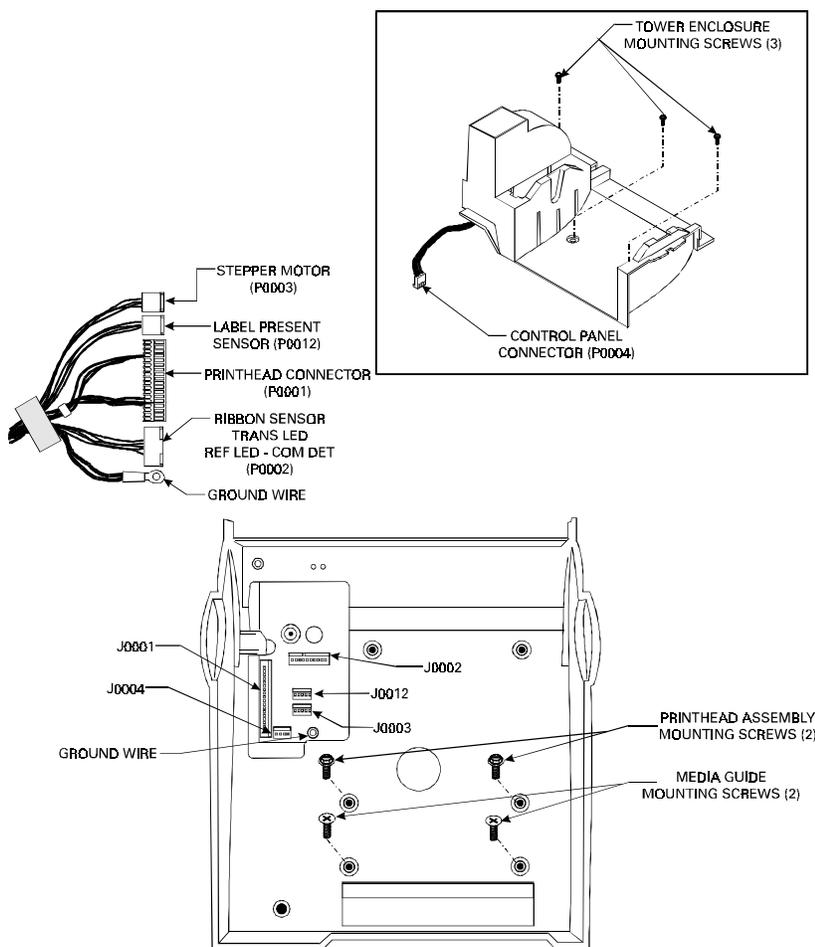
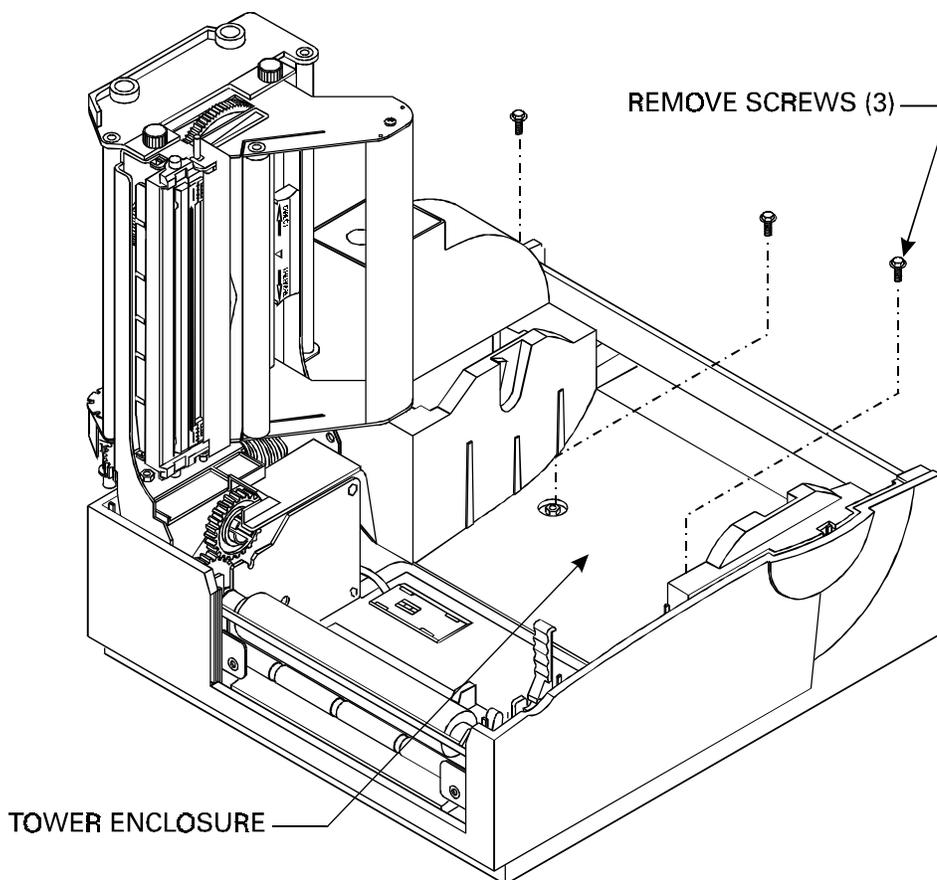

Figure 13. Cover Removal and Electrical Connector Location
Figure 17. Tower Enclosure Removal
3. Remove the four screws securing the Printhead Assembly and the Media Guide to the printer. Remove the Media Guide. (see Figure 13).
2. Place the Printhead Assembly back into the printer. Reconnect all cables (including the ground wire) to the Main Logic Board (see Figure 13 for proper reconnection of connectors).
2. Connect all the connectors and the ground wire to the Main Logic Board making sure that all connectors are installed in the correct locations (see Figure 13 for correct connector placement).
3. Loosen and remove the three hex screws that secure the Tower Enclosure to the printer (see Figure 17). Slide the Tower Enclosure forward and tilt up to unplug the Control Panel connector from J0004 connector located on the Main Logic Board (see Figure 13). Remove the Tower Enclosure.
2. Plug the Control Panel connector into J0004 on the Main Logic Board (see Figure 13).
3. Unlatch the Printhead and remove the four screws securing the Printhead Assembly and the Media Guide to the printer. Remove the Media Guide (see Figure 13 for Media Guide screw location).
4. Loosen and remove the three hex screws that secure the Tower Enclosure to the printer. Slide the Tower Enclosure forward and tilt up to unplug the Control Panel connector from J0004 connector located on the Main Logic Board (see Figure 13). Remove the Tower Enclosure.
5. Loosen and remove the screw securing the ground wire to the Main Logic Board (see Figure 13). Remove all other connectors from the Main Logic Board and lift out the Printhead Assembly from the printer.
2. Replace all the connectors previously removed from the Main Logic Board (see Figure 13 for correct connector placement). Place the Printhead Assembly and Media Guide back in the printer, secure with four screws.